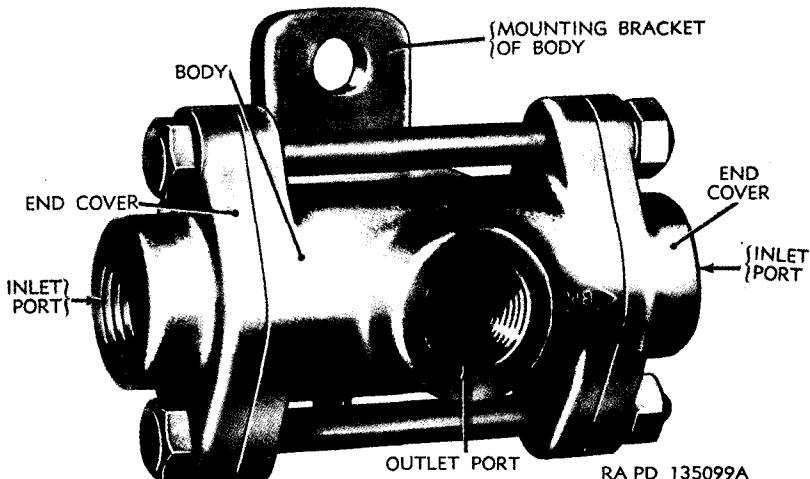

Figure 177. Shuttle type double check valve.
(1) *Shuttle type* (figs. 177, 179, and 181). The shuttle type consists of a die-cast body inclosing a closed end cylinder or shuttle valve, which is free to move in body. Ends of body are closed by rubber gaskets and bolted end covers. Both end covers are tapped for air line inlet connections. A tapped outlet connection in body is located midway between the ends.